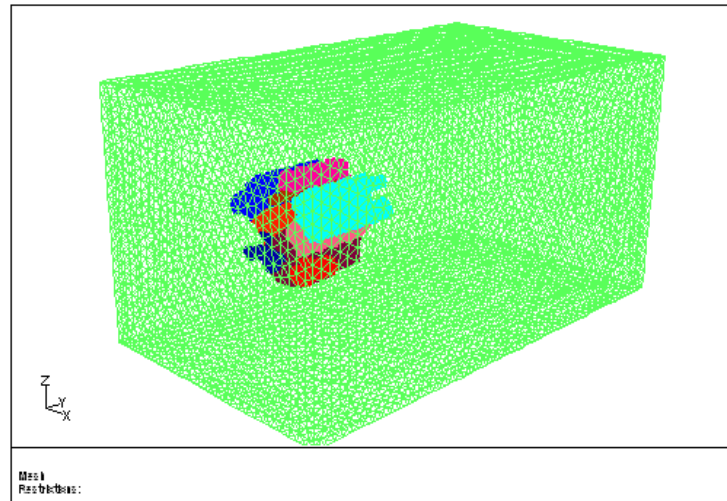

Figure 7.31: Mesh with the Tunnel
7. Display the boundary mesh (Figure 7.31).
Disable Filled in the Attributes tab of the Display Grid panel and Hidden Line Removal in the Display Options panel to obtain the display shown in Figure 7.31.